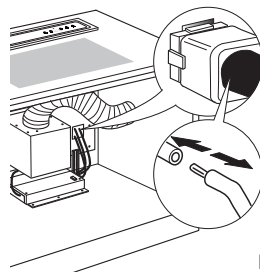

Fig. 3
- In the 9-pin connection, make sure the wires are properly inserted in the connector. (When connecting, pressing too hard could bend the contacts). (Figure 3)